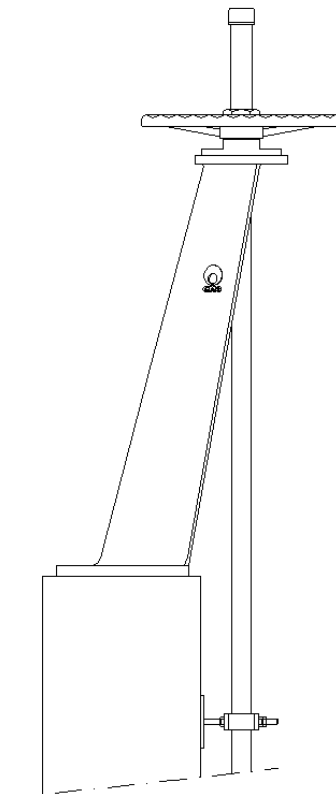

Fig. 11
- Tilting stand available on request (Fig. 11).